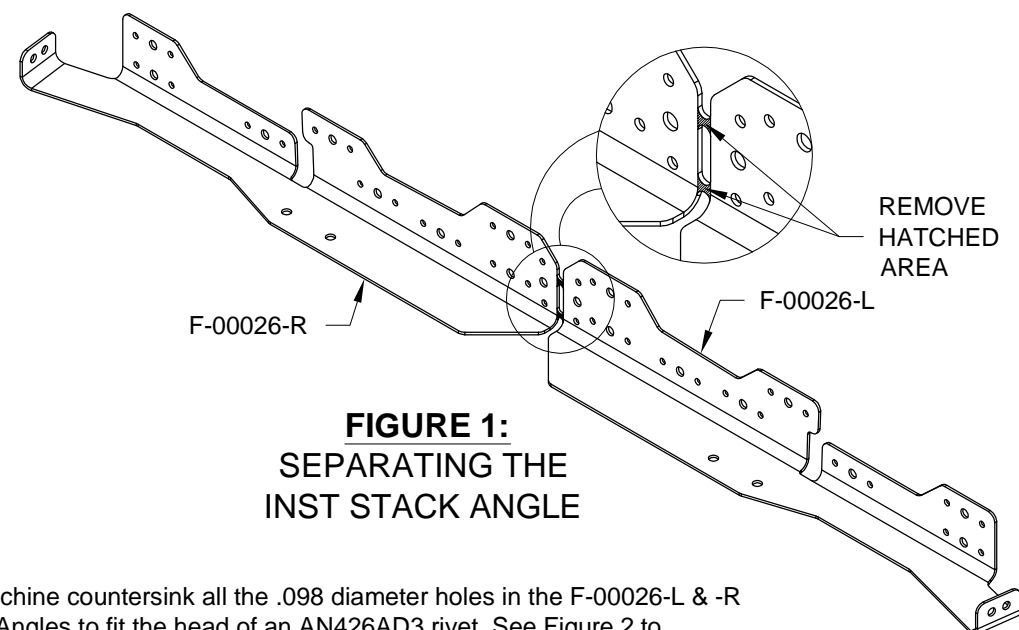

FIGURE 1:
Step 1: Separate the F-00026 Inst Stack Angle into F-00026-L & -R Inst Stack Angles as shown in Figure 1.